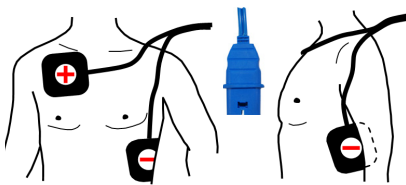
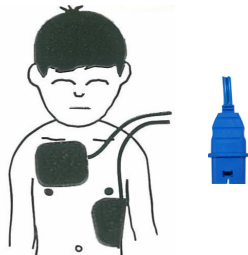

Fig. 5.2 Electrode position for adults
Fig. 5.3 Electrode position for children weighing 25 kg or over
Electrode placement is the same for adults and children weighing 25 kg or over (refer to Fig. 5.2 Electrode position for adults and Fig. 5.3 Electrode position for children weighing 25 kg or over).
1. Clean and dry the application points for the electrodes (refer to Fig. 5.2 Electrode position for adults and Fig. 5.3 Electrode position for children weighing 25 kg or over). Only clean the skin by vigorously rubbing it with a dry cloth.
3. Apply the other electrode diagonally below the left pectoral, as illustrated in Fig. 5.2 Electrode position for adults and Fig. 5.3 Electrode position for children weighing 25 kg or over.